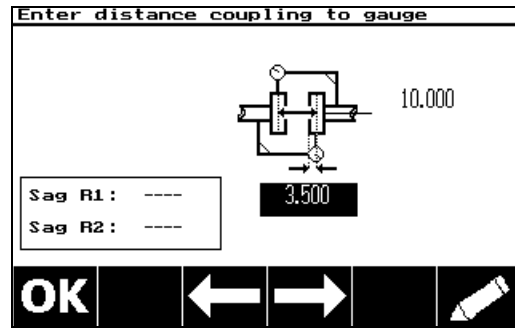
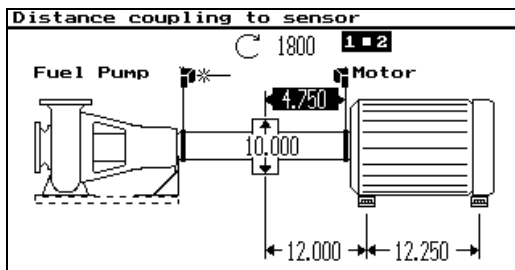
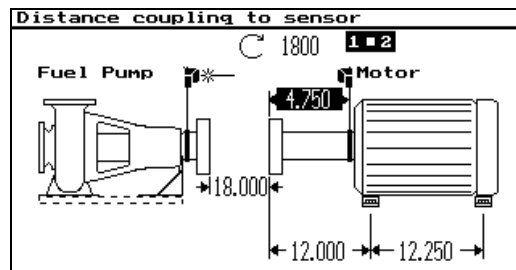
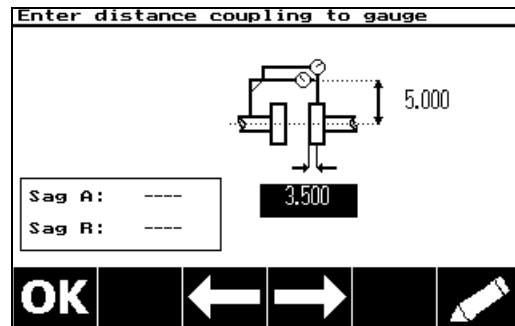

Figure 7
Figure 8
Figure 9
Figure 15
8) Now key in the distance between rim indicator R2 and the coupling center and confirm with . (See Figure 7). For short flex couplings, this is the location at which your offset results are given for the readings taken with the laser, or, in other words, the location specified by the distance between the ROTALIGN[®] PRO's Receiver and the coupling center. (See Figure 8). For spacer couplings, key in the distance from R2 to the right hand coupling center, or to the point of power transmission closest to the R2 indicator. This location would be the same as that specified by the distance between the ROTALIGN[®] PRO's Receiver and the coupling when using spacer coupling type (See Figure 9).
- 8) Key in the distance from the Rim (or Radial) Indicator (R) to the coupling center and confirm with **ENTER**. (See Figure 15). For short flex couplings, this is the location at which your offset results are given for the readings taken with the laser, or, in other words, the location specified by the distance between the ROTALIGN® PRO's Receiver and the coupling center. (See Figure 8). For spacer couplings, key in the distance from the Rim Indicator (R) to the right hand coupling center, or to the point of power transmission closest to the rim indicator.
9) Key in the sag values for the Face (A) and Rim (R) indicators and confirm with **ENTER**.